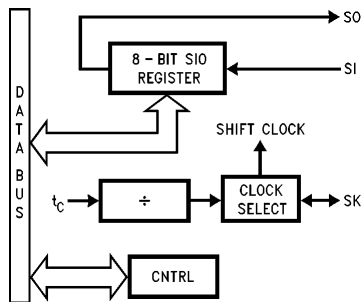

FIGURE 7. MICROWIRE/PLUS Block Diagram
MICROWIRE/PLUS is a serial synchronous bidirectional communications interface. The MICROWIRE/PLUS capability enables the device to interface with any of National Semiconductor’s MICROWIRE peripherals (i.e. A/D converters, display drivers, EEPROMS, etc.) and with other microcontrollers which support the MICROWIRE/PLUS interface. It consists of an 8-bit serial shift register (SIO) with serial data input (SI), serial data output (SO) and serial shift clock (SK). Figure 7 shows the block diagram of the MICROWIRE/PLUS interface.